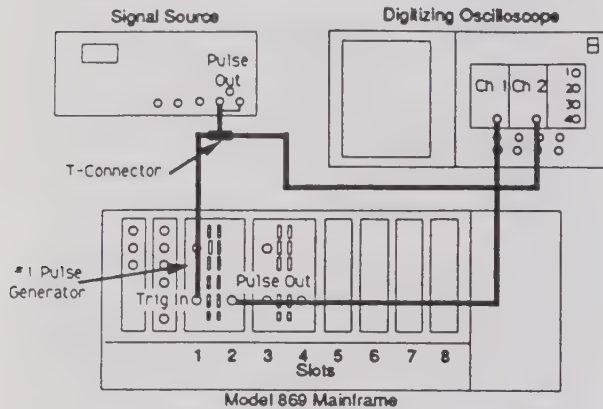

Figure 2-15. Trigger Level/Slope Hookup #2
- Interconnect the required test equipment as shown in figure 2-15.